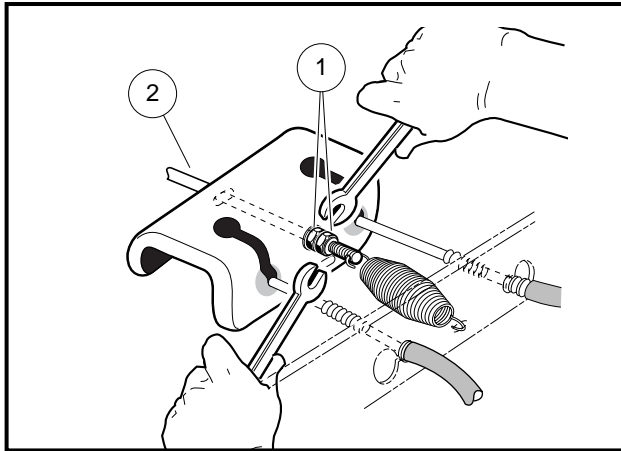

Figure 6-1 Loosen Rear Brake Equalizer Nuts
2. Release park brake if latched and loosen equalizer retaining nuts (1) on equalizer rod (2) to slightly loosen brake cable (**Figure 6-1, Page 6-2**).
3. Loosen the rear brake equalizer (**Figure 6-1, Page 6-2**).